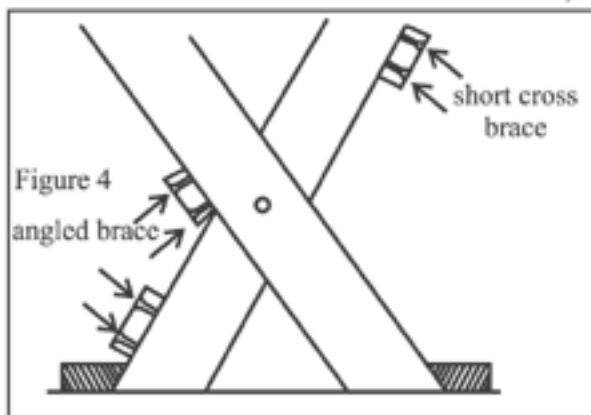

Figure 4
4) The angle brace secures the two outer legs together and is positioned as shown in figure 3 & 4. Leave a small gap (1/4") between the angled side of the brace and the inside set of legs as shown in figure 4.